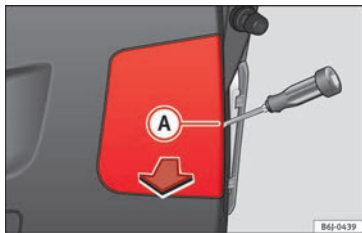

Fig. 113 Lights on the boot.
- Remove the lid with a flat screwdriver, placing it in notch **A** »» Fig. 113.